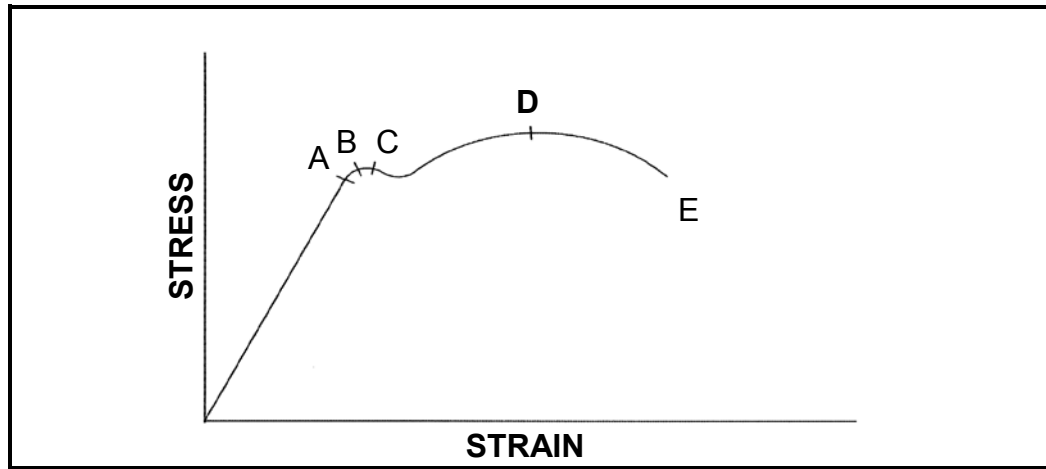

FIGURE 1.2
1.20 What does point **D** denote in FIGURE 1.2 below?